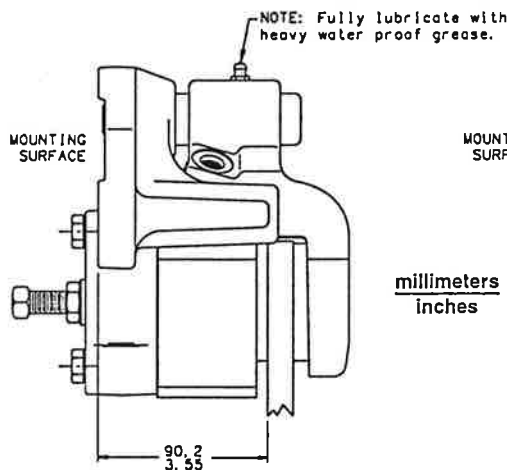
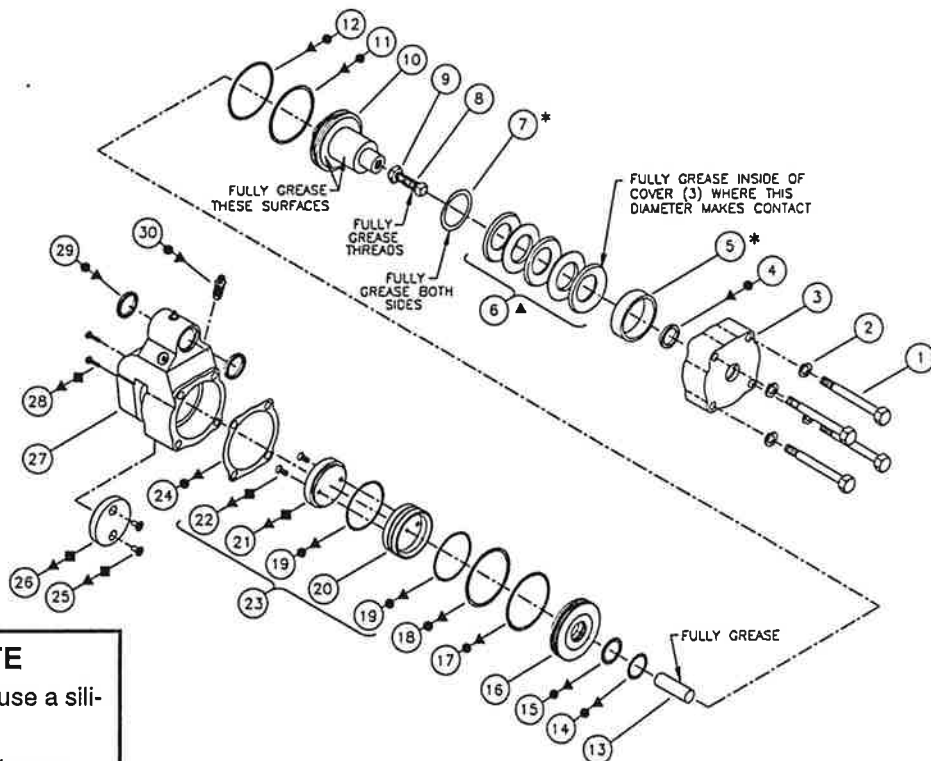
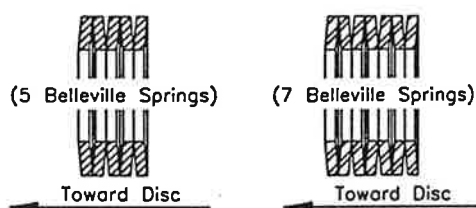

FIGURE 1
FIGURE 6
FIGURE 7
* Belleville Springs are pre-greased. DO NOT remove grease from springs (See GREASE NOTE in Figure 6).
- Figures 1 & 2 illustrate the two methods of mounting this series of brakes. See grease note, Figure 6. The mounting surface to disc face dimension should be closely held as this provides for the required
Dimensions shown in Figures 1 & 2 are typical for all models. Mounting surface to disc face dimension typical of both style carriers. Mounting bolts not included.
This literature services various models in this brake series. The components shown in Figure 6 may appear different than what is found in your brake.
10. Remove piston (10) from housing (27) bore. Remove o-ring (12) and back-up ring (11) from piston. Push rod (13) should also come out with piston.
11. Remove piston (16) from housing (27) bore. Remove o-rings (14 & 17) and back-up rings (15 & 18) from piston.
12. Remove lining assembly (23) from housing (27) bore. Holding assembly on a flat surface, separate lining (21) and piston (20) by removing flat head screws (22). Remove o-rings (19) from piston (20).
13. Loosen vise jaws and rotate brake so that disc clearance slot is facing upward. Remove pan head screws (28), lining (26) and bushings (25) from housing (27).
15. Clean all parts and housing bore thoroughly with clean type fluid used in the system and keep free of all contaminants, dirt, and debris. **NOTE: Use a heavy, waterproof grease to lubricate surfaces as shown in Figure 6. (See GREASE NOTE)**
16. Install new lining (26) in housing (27) using new bushings (25) and new pan head screws (28). Torque screws (28) 2.5-3.2 N-m (22-28 lb-in).
17. Install new lining (21) on piston (20) using new flat head screws (22). Torque screws (22) 3.4-4.5 N-m (30-40 lb-in). Install new o-rings (19) on piston (20) and insert lining assembly (23) into housing (27) bore.
18. Carefully install two new seals (29) in housing (27). Be sure to install seals (29) the same direction as they were removed.
19. Install new bleeder screw (30). Torque bleeder screw 12.2-20.3 N-m (9-15 lb-ft).
20. Install new o-rings (14 & 17) and new back-up rings (15 & 18) on piston (16). Note order of components.
21. Install piston (16) into housing (27) bore. Note direction of piston. **NOTE: When inserting piston, be sure not to pinch o-ring on inlet ports.**
22. Install new back-up ring (11) and new o-ring (12) on piston (10). Note order of components. Install push rod (13) in bore of piston. Install piston into housing (27) bore.
23. Fully lubricate threads of adjusting screw (8) and lock nut (9) and install into piston (10).
24. Install washer (7), spacer (5) and belleville springs (6) over end of piston (9). Follow the stacking sequence shown in Figure 7. Not all models use spacer (5), or washer (7). Some models use two washers (7). **NOTE: If seal kit is being installed use existing belleville springs after completely lubricating with a light coat of heavy, water proof grease (See Grease Note, Figure 6). If repair kit is being installed use new belleville springs, already greased. Note that the belleville spring nearest the cover will contact the cover with its outside diameter.**
25. Install new seal (4) in cover (3).
26. Install new gasket (24), cover (3), lock washers (2) and cap screws (1). Torque cap screws 29.8-36.6 N-m (22-27 lb-ft).
(Refer to Figure 6)
Loosen cap screws evenly and in order (A, B, C, D, see Figure 7) until spring preload is released.
14. Clean all parts and housing bore thoroughly with clean type fluid used in the system and keep free of all contaminants, dirt, and debris. **NOTE: Use a heavy, waterproof grease to lubricate surfaces as shown in Figure 6. (See GREASE NOTE)**
15. Carefully install two new seals (29) in housing (27). Be sure to install seals (29) the same direction as they were removed.
16. Install new o-rings (19) on lining assembly (23). Install lining assembly (23) in housing (27) bore.
17. Install new o-rings (14 & 17) and new back-up rings (15 & 18) on piston (16). Note order of components.
18. Install piston (16) into housing (27) bore. Note direction of piston. **NOTE: When inserting piston, be sure not to pinch o-ring on inlet ports.**
19. Install new back-up ring (11) and new o-ring (12) on piston (10). Note order of components. Install push rod (13) in bore of piston. Install piston into housing (27) bore.
20. Fully lubricate threads of adjusting screw (8) and lock nut (9) and install into piston (10).
21. Install washer (7), spacer (5) and belleville springs (6) over end of piston (10). Follow the stacking sequence shown in Figure 7. Not all models use spacer (5), or washer (7). **NOTE: Completely lubricate belleville springs (6) with a light coat of heavy, waterproof grease (See Grease Note, Figure 6).**